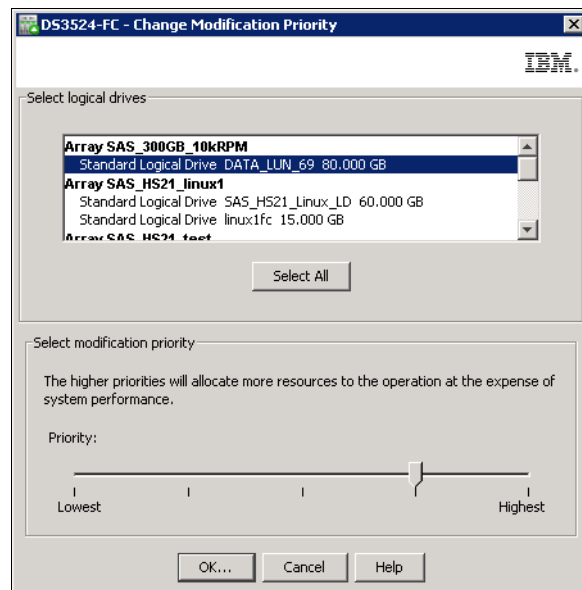

Figure 9-26 Modification priority for a logical drive
2. Make sure that the correct logical drive is selected, and set the new Modification Priority value as shown in Figure 9-26.
You can select more drives in Figure 9-26 by using the **Ctrl** or **Shift** key during selection or by clicking the **Select All** button. All of the selected drives will have the same modification priority after the change.